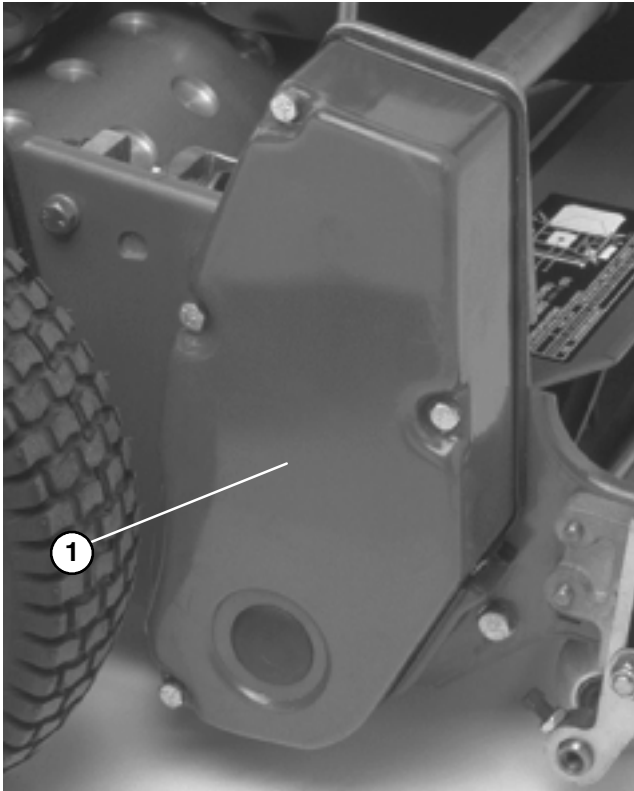

Figure 33
A. Remove belt cover mounting screws and belt cover to expose belt (Fig. 33).